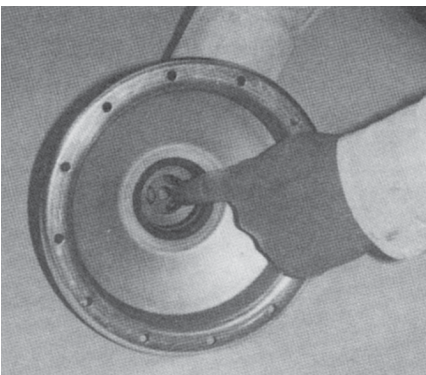

Figure 4-8 Pressing shuttle out of upper housing.
4.7.2 From inside the upper housing, push upward on shuttle stop (4F) to remove the shuttle assembly. See Figure 4-8.